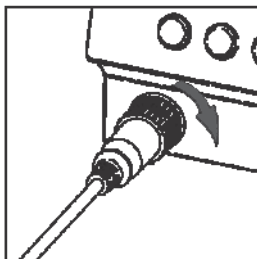

Figure 3
C. Turn the plug knob of the soldering handle clockwise again. See Figure 3.